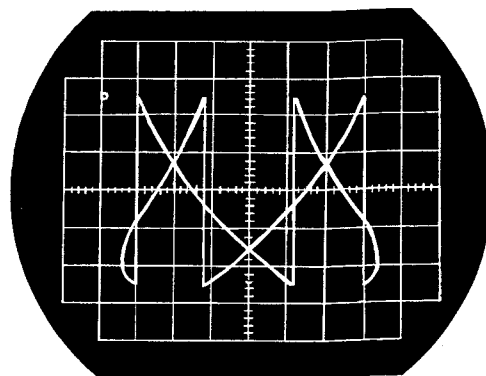

Fig. 10-5 Lissajous' Figure
36. Adjust VR_3 so that a stationary Lissajous' figure (see Fig.10-5) appears on the oscilloscope screen.